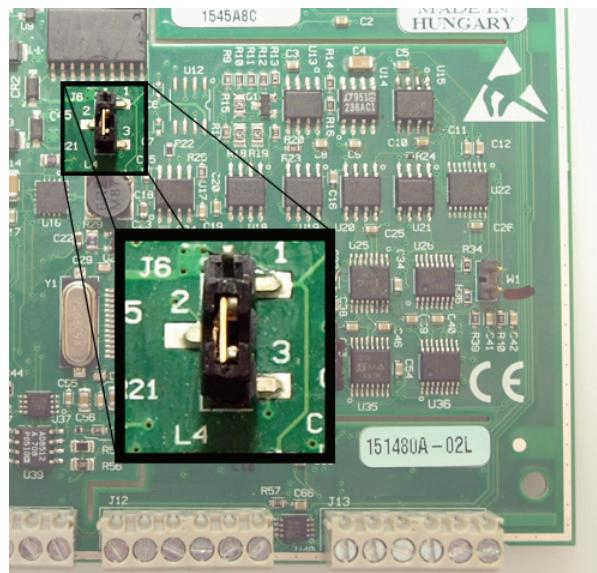

Figure 12. Location of J6 jumper
5. Configure jumper **J6** for either pull-up, pins 1-2, or pull-down, pins 2-3. The jumper is configured by default for pull-up. Figure 12 shows the location of the jumper on the board.